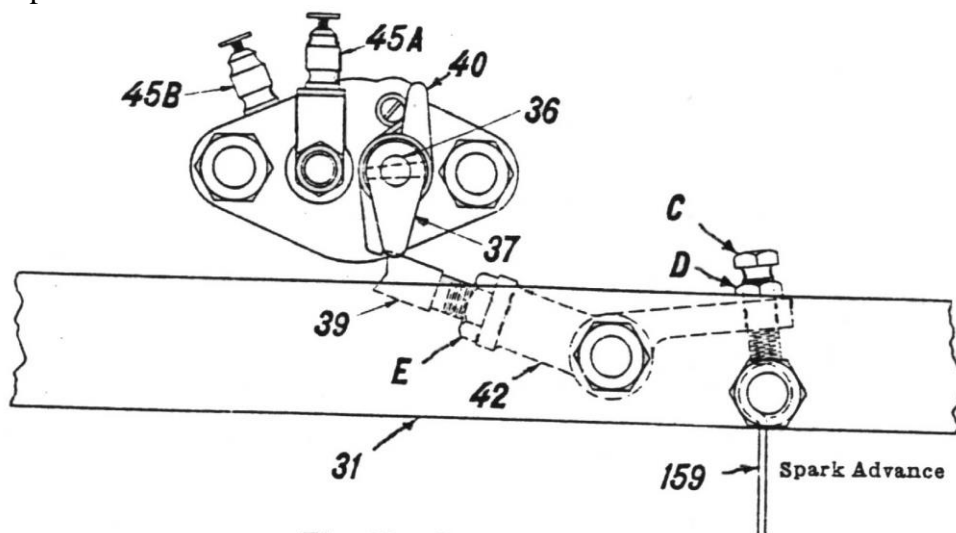

Fig. 12.—Ignitor Timing.
10. The entire ignition system may be in perfect working order, but the ignitor set so that contact and ignition occur at the wrong point in the cycle. In other words, the ignition is timed wrong (See Fig. 12, page 14)
Turn the fly-wheel in the direction that it runs until the ignitor trip (No. 39, Fig. 12 below) reaches its innermost position. In this position it should clear ignitor hammer (No. 40) about one-sixteenth of an inch on the 1, 1 $\frac{3}{4}$ and 2 $\frac{1}{2}$ - HP. and about one-eighth of an inch on 4HP and larger engines. This distance is obtained by loosening screw (C). This allows No. 39 to be moved as the ease may require. **When adjusted tighten lock-nut (E).** Now turn wheel until the crank is the proper distance below center (see above) on the compression stroke, where the ignitor should trip. If the ignitor trips later than this, the adjusting screw (C) should be screwed in until the ignitor trips correctly. If the ignitor trips before this point is reached, (C) should be adjusted so that the ignitor trip (No. 39) will release the hammer No.37 at the correct ignition point. After adjusting, tighten lock nut (D).
NOT ENOUGH FUEL – After being started, the engine should run up to normal speed within a few seconds if it is receiving fuel in the proper proportion. If the engine is not under load, it should take a charge every 7 or 8 revolutions and fire each charge; this indicates that the engine is ready for its load. If there is popping and back-firing (see “Back Firing,” page 21) in the mixer, the engine may need more fuel – the inlet valve may not close properly, or the ignitor may be out of adjustment (see “Timing Ignitor,” Fig. 12, page 14, also “Timing Ignitor and Magneto,” page 16).